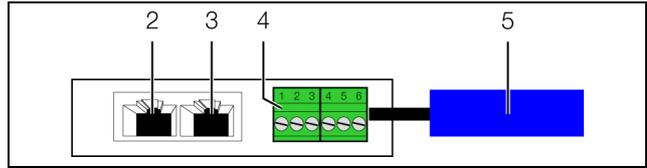

Fig. 11: Rear of the airflow sensor
- Connect the four colour-coded wires from the sensor-probe cable to the pins on the universal interface as follows (fig. 11, item 4).
- Use a CAN bus connection cable to connect the airflow sensor to a CAN bus interface on the CMC III Processing Unit or the neighbouring component on the CAN bus (fig. 11, item 2).
- If necessary, connect another component (e.g. another sensor type) to the second, free CAN bus interface of the airflow sensor (fig. 11, item 3).